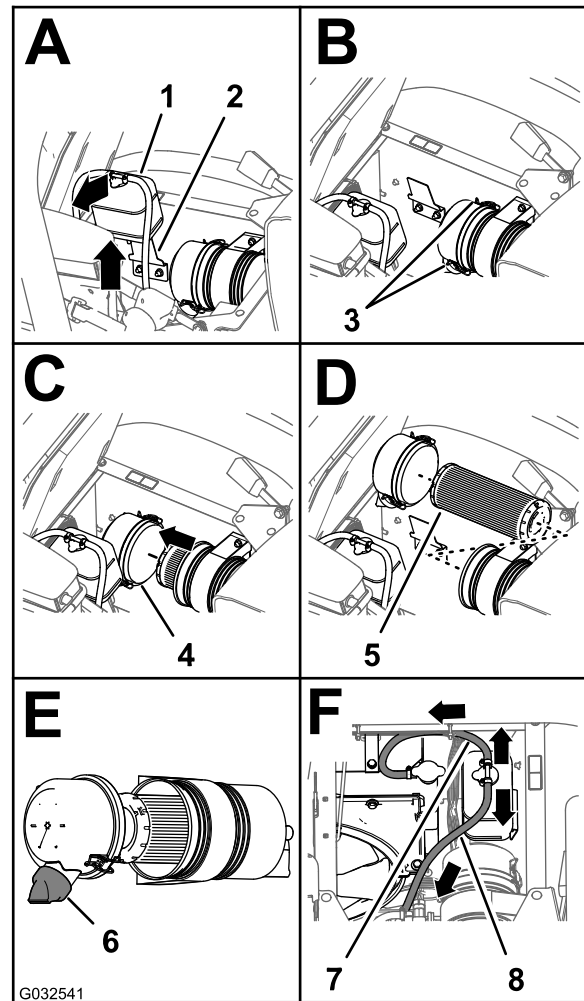

Figure 72
3. Lift the coolant-overflow tank up and off the tank-support bracket (Figure 72).
4. Loosen the 2 latches that secure the dust cap to the air-cleaner body (Figure 72).
6. Clean the inside of the dust cap, air-cleaner body, and dust valve with a damp rag (Figure 71 and Figure 72).
7. Insert the air-filter element into the air-cleaner body (Figure 72).
- Install the cover onto the air-cleaner body and secure the cover with the 2 latches (Figure 72).
Note: Ensure that the dust valve is aligned between the 5 to 7 o'clock position when viewed from the end (Figure 72).
- Align the coolant-overflow tank to the tank-support bracket and seat the tank firmly (Figure 72).
Important: Ensure that the pressure-relief hose is routed forward and down, and the tank-vent hose is routed rearward as shown in Figure 72.